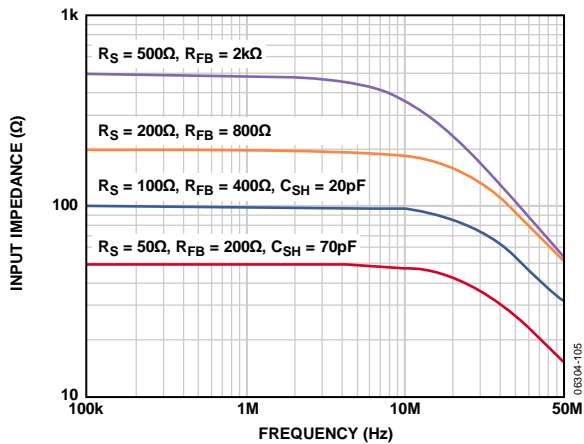

Figure 42. R_{IN} vs. Frequency for Various Values of R_{FB} (Effects of R_{SH} and C_{SH} Are Also Shown)
The bandwidth (BW) of the LNA is about 70 MHz. Ultimately the BW of the LNA limits the accuracy of the synthesized R_{IN} . For $R_{IN} = R_S$ up to about 200 Ω , the best match is between 100 kHz and 10 MHz, where the lower frequency limit is determined by the size of the ac-coupling capacitors, and the upper limit is determined by the LNA BW. Furthermore, the input capacitance and R_S limit the BW at higher frequencies. Figure 42 shows R_{IN} vs. frequency for various values of R_{FB} .
Note that at the lowest value, 50 Ω , in Figure 42, R_{IN} peaks at frequencies greater than 10 MHz. This is due to the BW roll-off of the LNA, as mentioned previously.